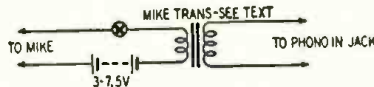

Fig. 1—Hookup for throat microphone.
A. The diagram (Fig. 1) shows how a microphone transformer can be used to connect your throat mike to the input